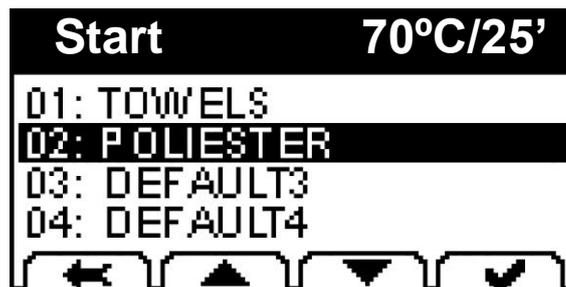

Fig. 4.1
- Select the desired program using the  and  keys. Then press  to start the program (Fig. 4.1).